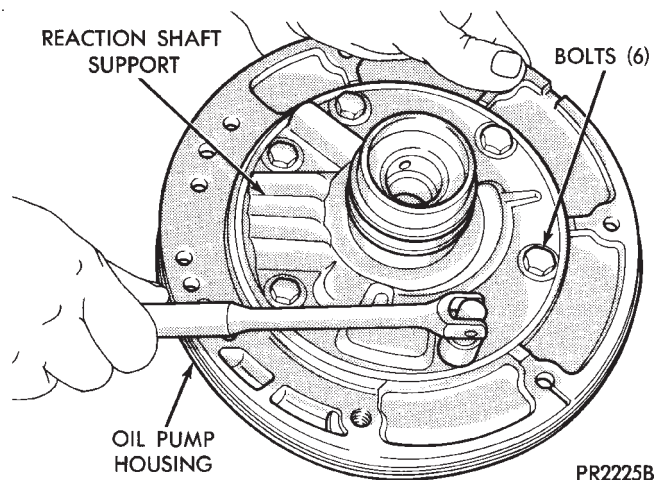

Fig. 1 Reaction Shaft Support Bolts
(1) Screw seal remover Tool C-3981 into seal (Fig. 1), then tighten screw portion of tool to withdraw the seal.